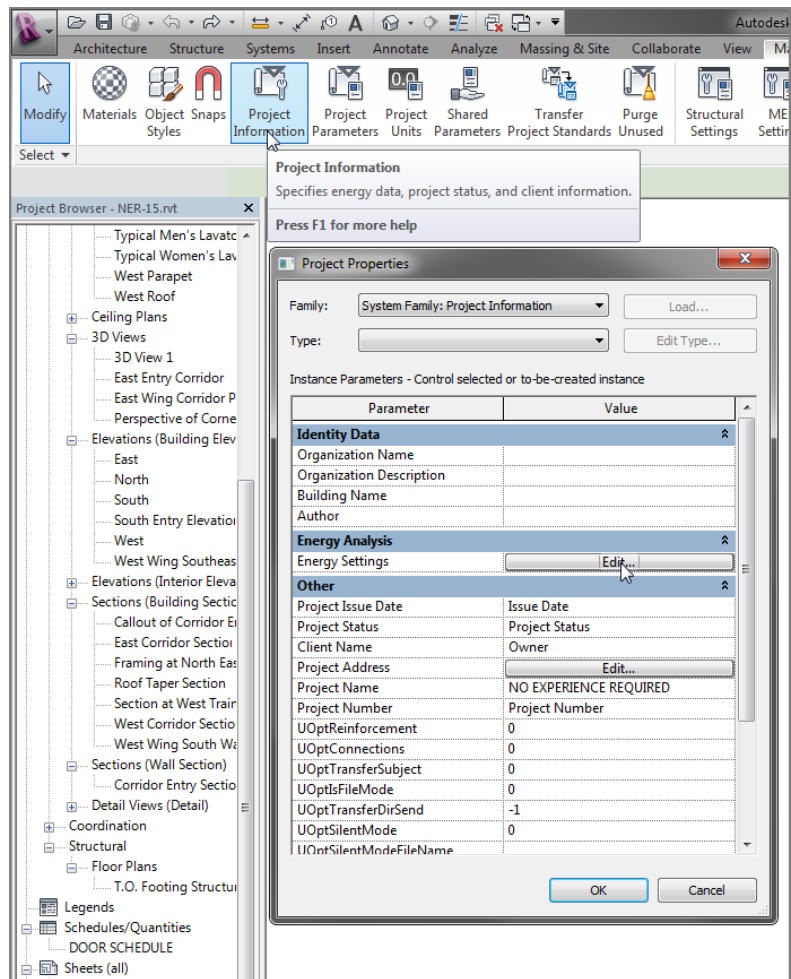

FIGURE 14.20: Filling out the project data
1. On the Manage tab, click Project Information, as shown in Figure 14.20.
2. In the Project Properties dialog box, click the Edit button next to Energy Settings, as shown to the right in Figure 14.20. The resulting dialog box allows you to add the project's geographical information as well as energy data. This lets you export the information to gbXML as well as provide information so that your architectural model can be imported into Revit MEP.
4. You can fill out the rest of the information as follows (see Figure 14.20):